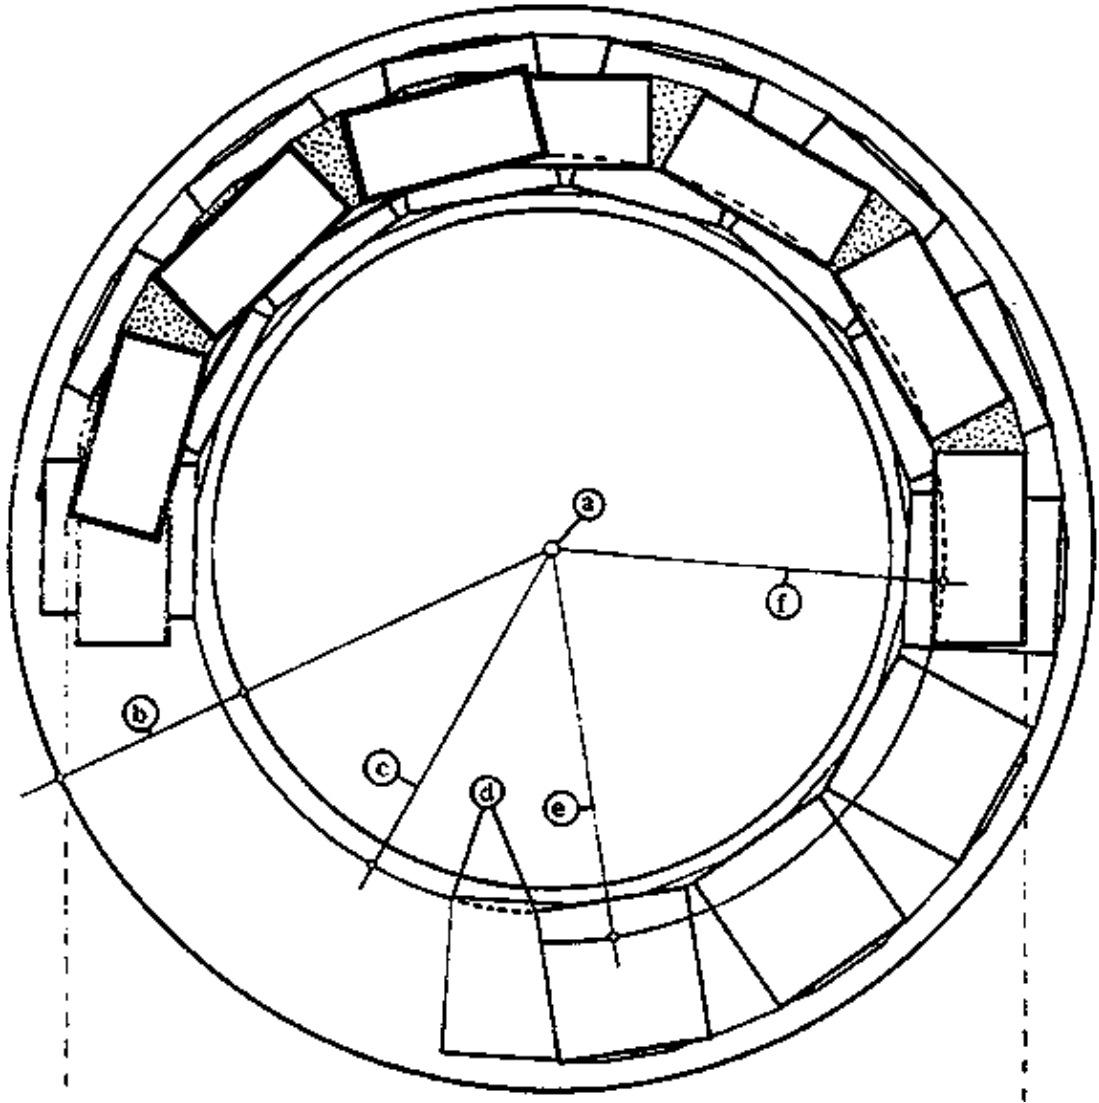

Fig. 1
- a. Determine the centre of the circle. Drive an iron rod into the ground at this point (Figs. 1 & 2, a). The rod should be a little higher than the top of the first course of the future rising wall.
- b. The inner and outer curves of the foundation are marked on the ground by fixing a mason line to the rod and describing circles with this at the desired radii (Fig. 1, b).
- c. The foundation is completed, then the inner curve of the footings is marked on the top of the foundation using the same method (Fig. 1, c).
e. When the footings are completed, the rising wall is laid out on top of the footings with the line and peg as before (Fig. 1, e). The blocks are positioned with the corners touching the circle as before.